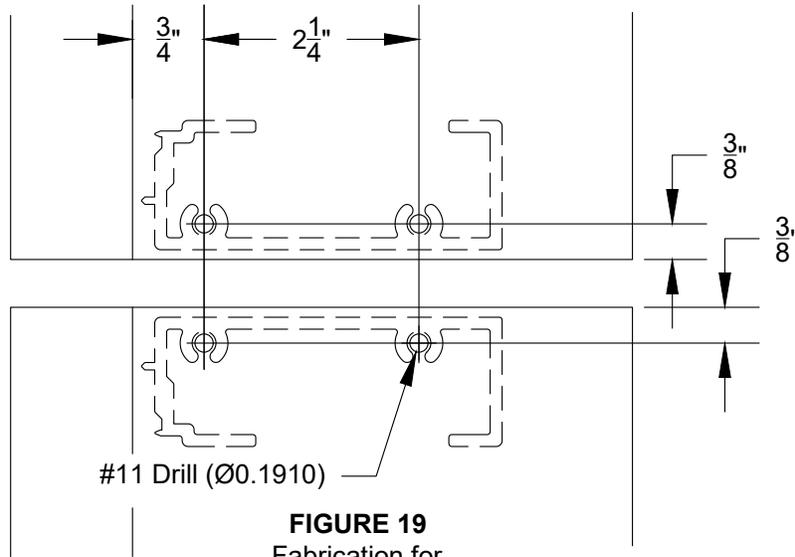
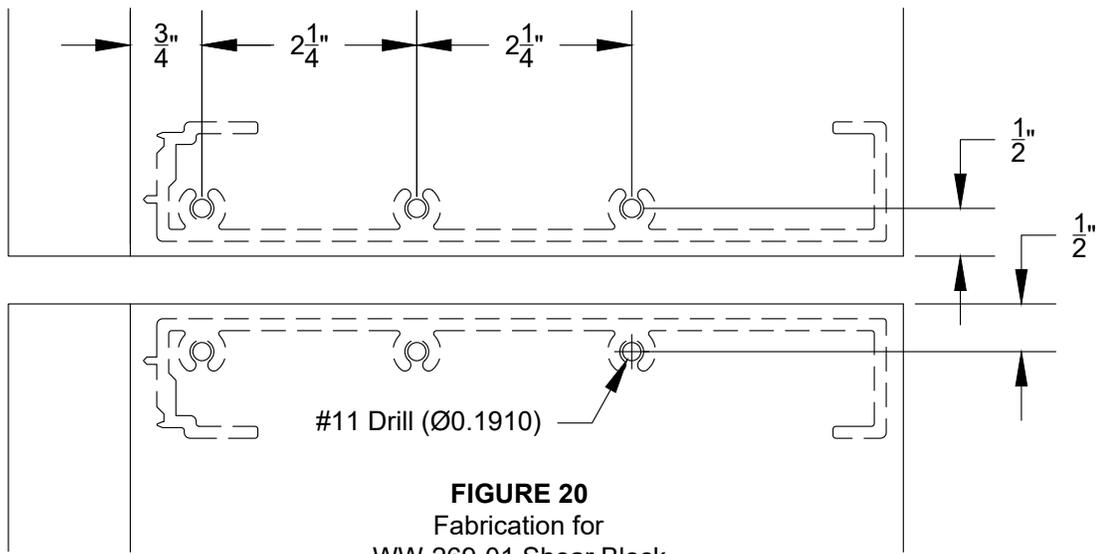

FIGURE 19
FIGURE 20
- 2.28 When using the WW-436, WW-437, WW-536, WW-537 horizontals for the expansion horizontal connection fabricate top and bottom of mullion as shown in FIGURE 19. If using WW-836 & WW-837 fabricate per FIGURE 20. Note that the dimension from the end of mullions to hole center line is different in these two drawings.